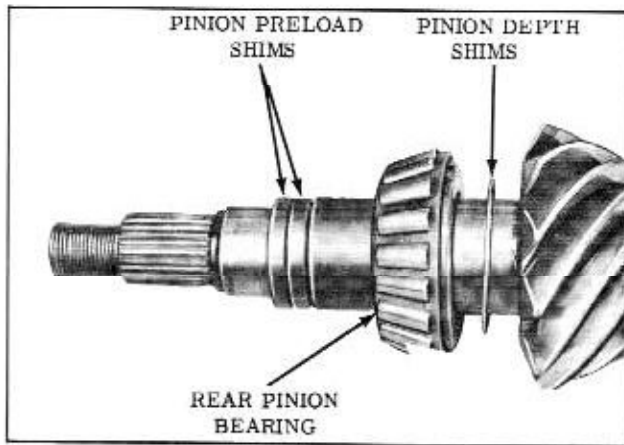

Figure 6-15 Pinion Gear Shims
1. If new gear or new bearings are used, always install a new pinion seal. Use original preload shims to start with. (Fig. 6-15)
The pinion depth is adjusted by changing the shim between the rear pinion bearing and pinion gear. (Fig. 6-15)